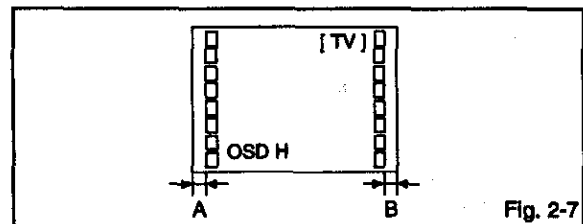

Fig. 2-7
4. Press the channel button (4) on the remote control.
5. Press the VOL. UP/DOWN on the remote control until the difference of A and B becomes minimum. (Refer to Fig. 2-7)